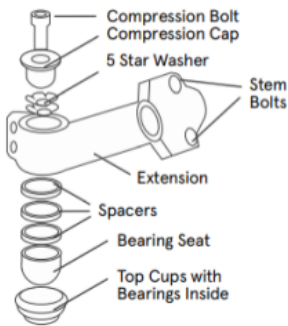

Fig. 3
1. Loosen the handlebar clamp stem bolts and remove the faceplate (See Fig.3).